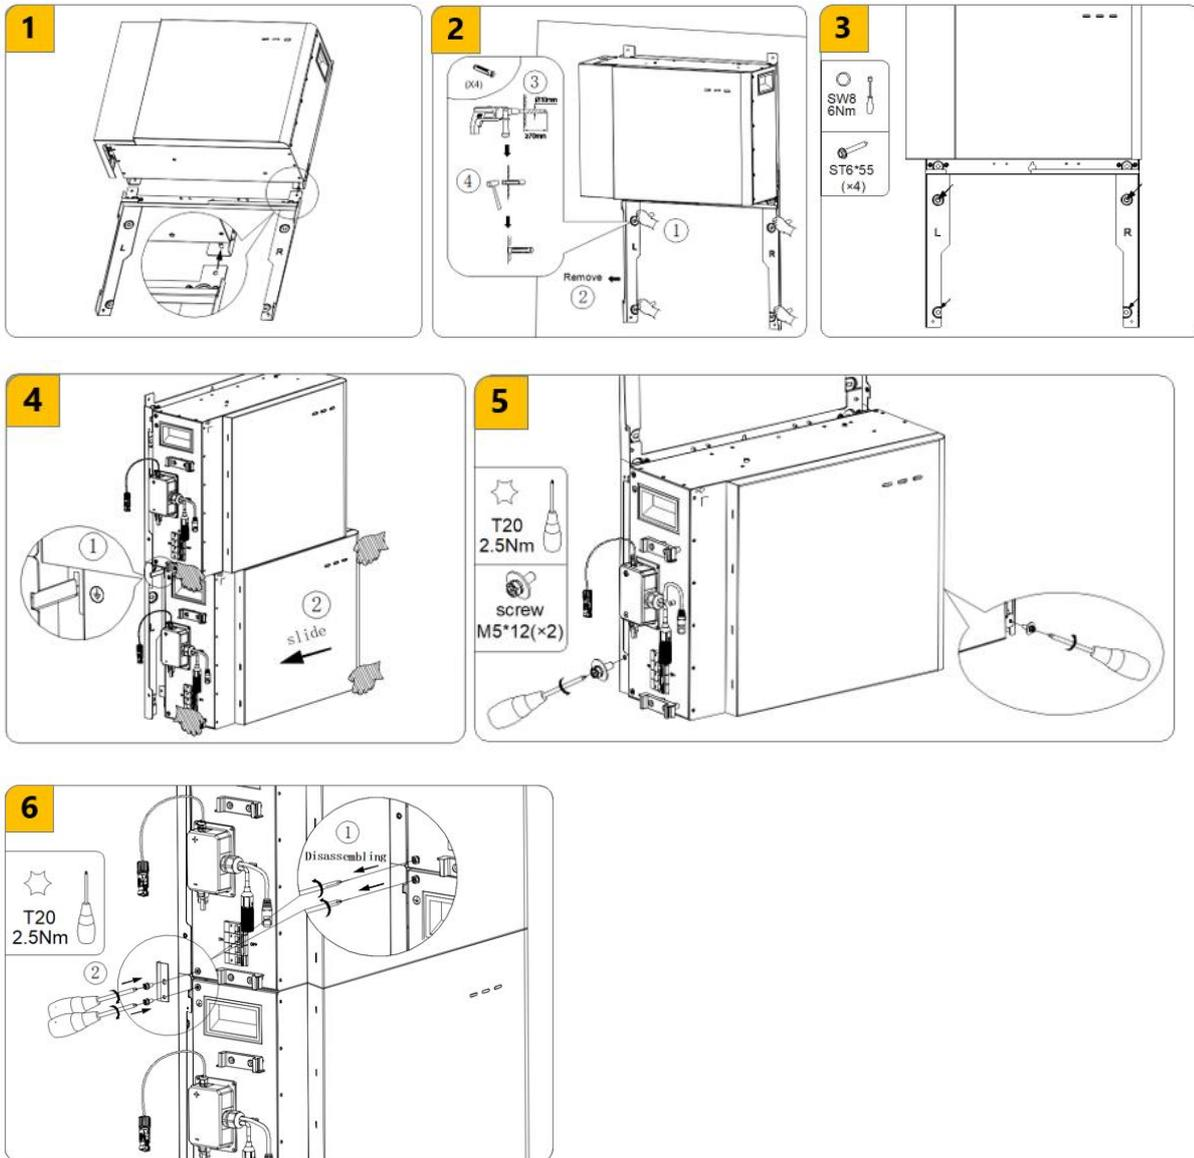

Figure 5-6 Battery expansion wall-mounted installation diagram
1. Assemble the upper hole of the lower bracket with the lower rivet of the upper bracket. Refer to 1 in Figure 5-6.
2. use a marker pen do stents under punching tags, and then the new assembly under the bracket take started punching, and into the expansion screws. Refer to 3 in Figure 5-6.
guarantee the hanging rack firmly fixed on the wall. Refer to 4-5 in Figure 5-6.
4. Take out the grounding bar from the packaging and use it to connect the lower left corner of the upper battery and the upper left corner of the lower battery (tool: T20 screwdriver, torque: 2.5 Nm). When doing so, unscrew the two screws before connecting the grounding bar. Refer to 6 in Figure 5-6.